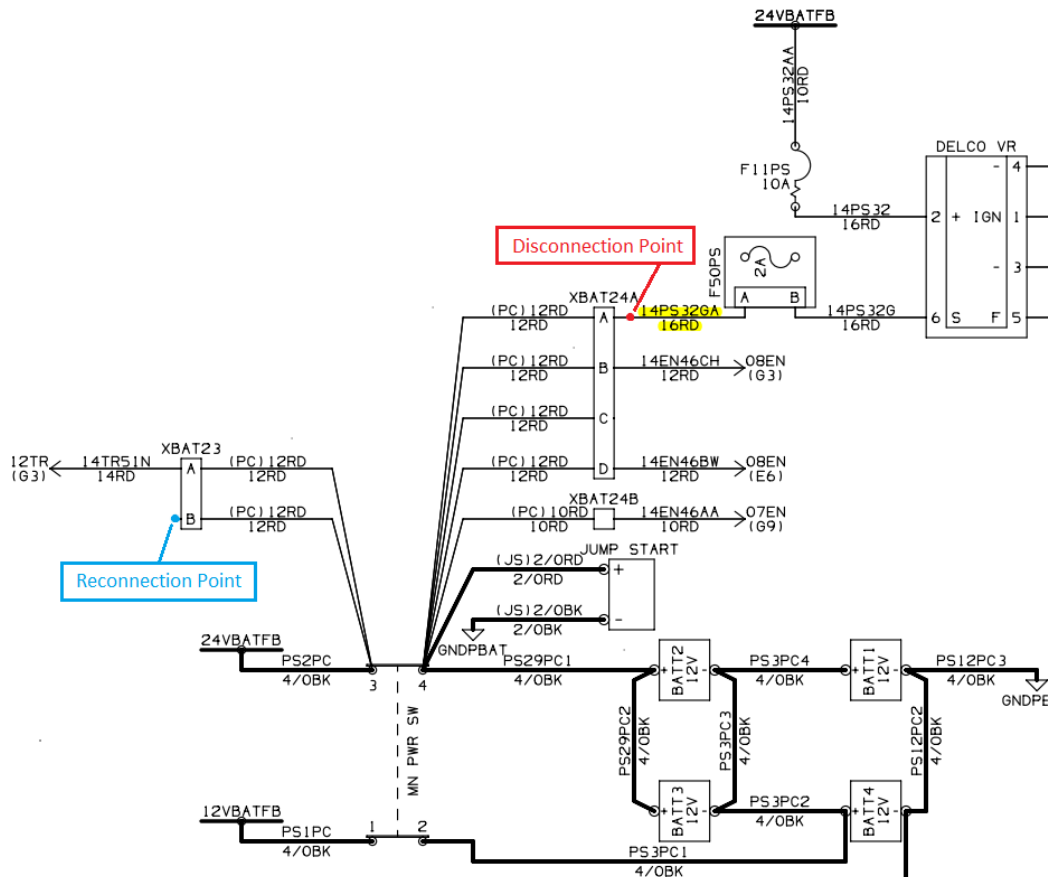
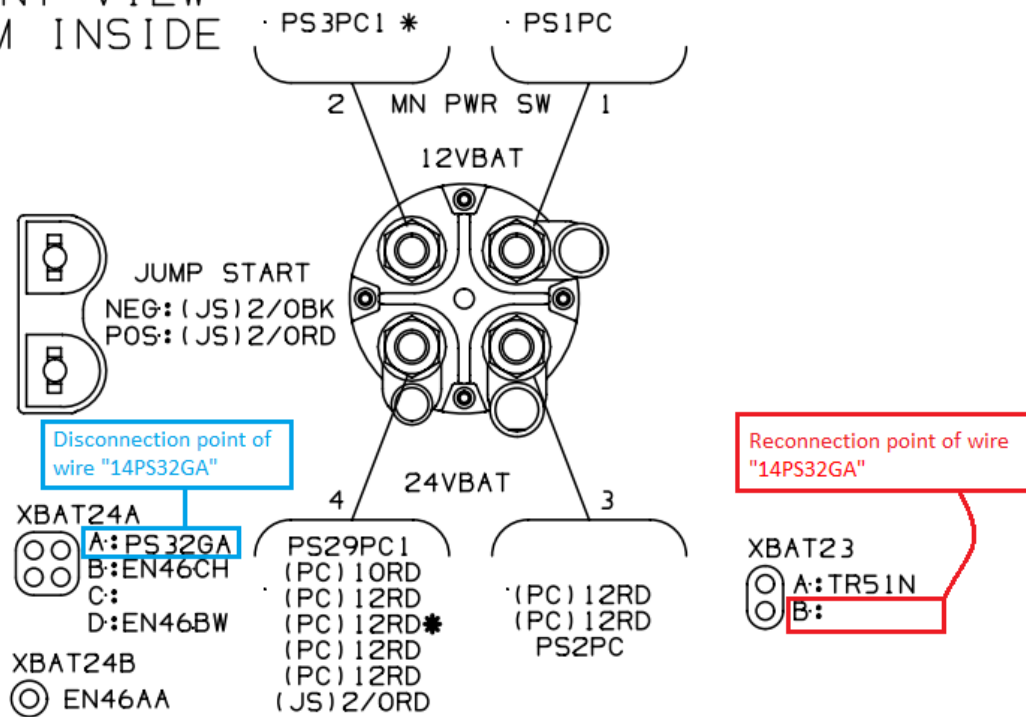

Figure 3: Wiring diagram
Figure 4: Reconnection point
5. Disconnect the wire from cavity “A” on the harness “XBAT24A” tower. Figure 3 and Figure 4 below displays the wiring diagram.
7. Connect the wire “14PS32GA” to the new socket location in cavity “B” of the shroud for harness “XBAT23” as shown in Figure 3 and Figure 4 below.